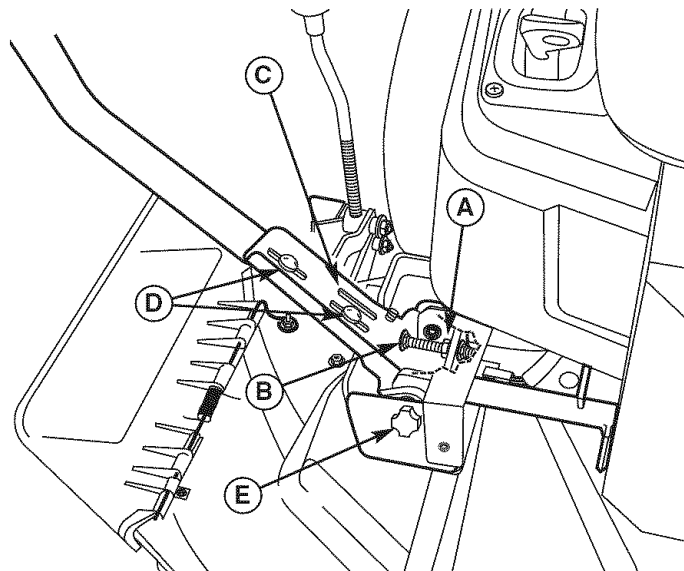

Figure 30. Control Lever Adjustment
**To Adjust Control Lever Height:** Pull the levers in across the operator's lap to their DRIVE positions. Loosen the mount bolts (D, Figure 30) and raise or lower the levers to the desired position. Tighten the mounting bolts.(D).
**To Adjust Control Lever End Gap:** The control lever end gap should be adjusted so that the levers do not contact each other when placed in DRIVE positions. Loosen the jam nut (A, Figure 30) and adjust the length of the carriage bolt (B) so that the levers do not contact each other. Repeat on the opposite side. Tighten the jam nut (A) to lock the carriage bolt in position.
**To Adjust Operator Clearance:** The space between the operator and the control levers can be increase by removing the lower mounting bolt (D, Figure 30), pivoting the lever forward, and reinstalling the capscrew through the control lever and forward slot (C). Repeat with the other ground speed lever.
If the rider veers to the right or left when the ground speed control levers are in the maximum forward position, the top speed of the right lever can be balanced by turning the adjustment knob (E, Figure 30). Loosen the jam nut and turn the knob COUNTERCLOCKWISE to increase speed or CLOCKWISE to decrease speed. Tighten the jam nut when complete.